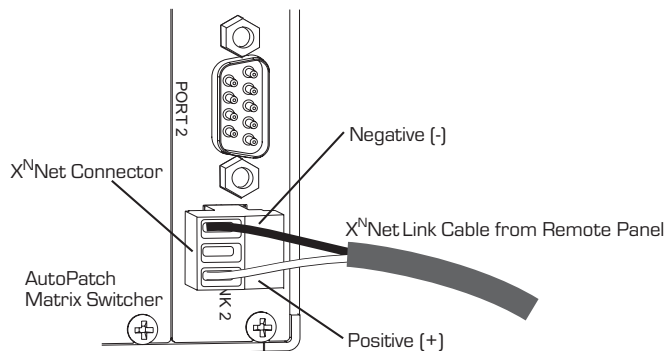

Figure 5: Insert the wires into the X^NNet connector on the CPU
3. Insert the wires of the X^NNet link cable from the Remote Panel into the X^NNet connector (see Figure 5).